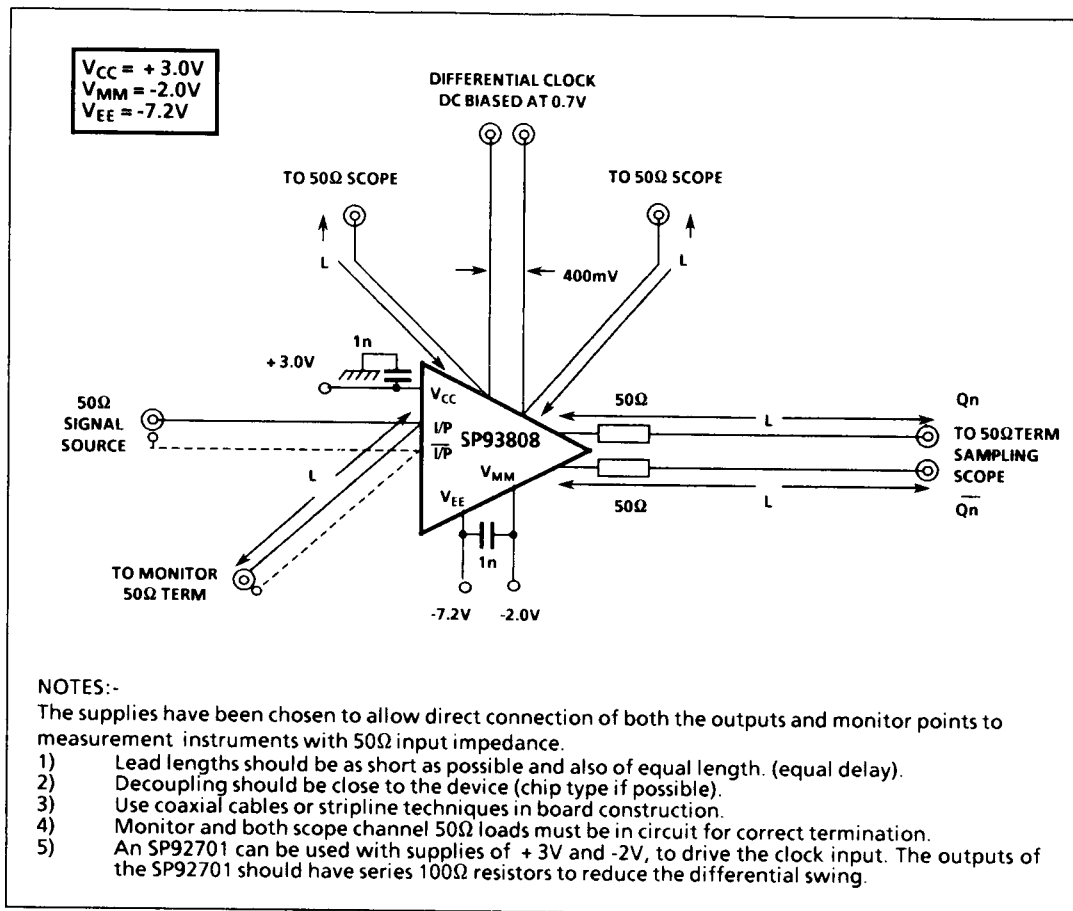

Fig.8 - Comparator Test Circuit (one channel)
- 1 SET is the input to the glitch capture circuit and is logically the same as the Q output from the comparator, see Fig.8.